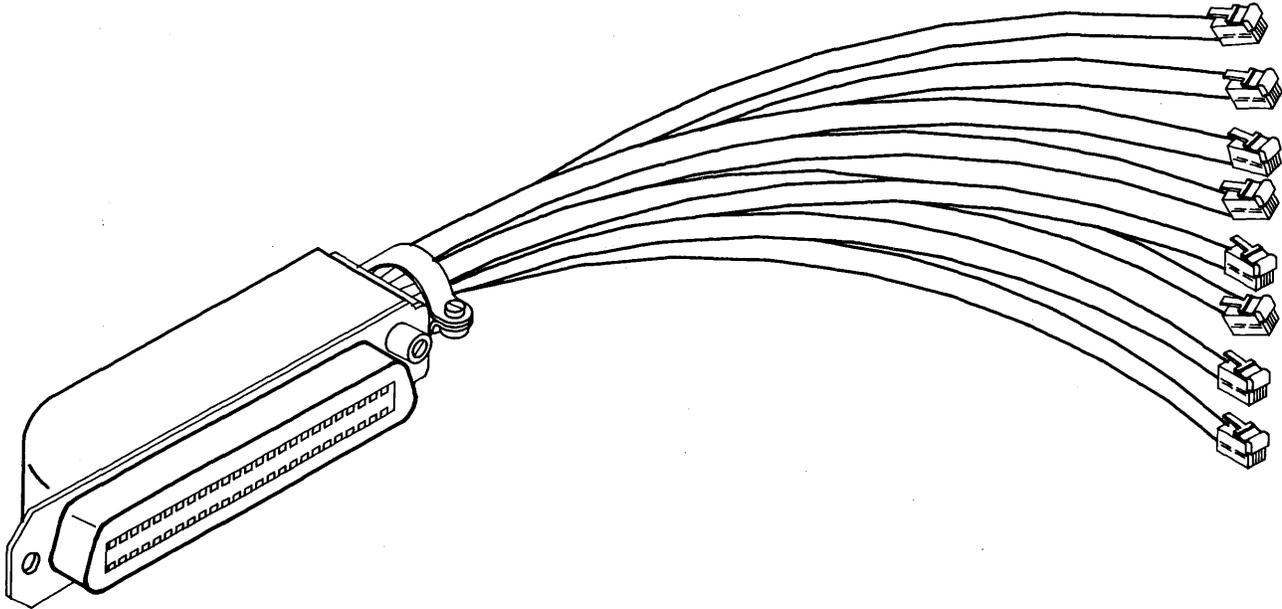

Fig. 20—M48A-87 Cord
3.09 The M48A-87 cord (ordered separately) can be used to combine eight connecting blocks to one 50-position female miniature ribbon connector (Fig. 20). To attach the M48A-87 cord to the 103A cover, remove the nuts from the screws holding the connector retainer bracket to the mounting bracket on the 103A apparatus mounting. Place the ribbon connector of the M48A-87 cord over the screw ends and replace the nut on the outer screw. The mounting screw toward the center of the cover threads into the connector body. (The nut may be discarded.) Clamp the retainer bracket between the connector and the mounting bracket on the 103A cover.